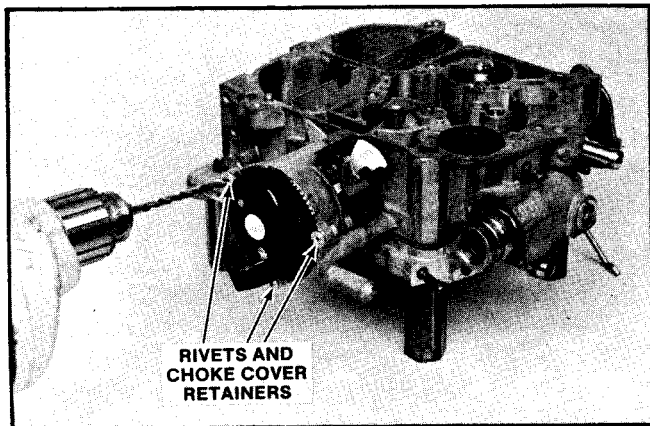

Figure 59 Choke Cover Removal - Late Models
2. Carefully align a #21 drill (.159") on rivet head and drill enough to remove the three rivet heads (Figure 59) and then, using a drift and small hammer, drive the remainder of the rivets out of the choke housing.